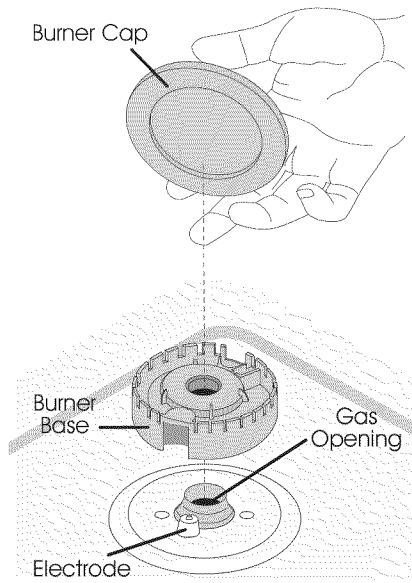

Figure 10
11.1 Install Burner Bases and Burner Caps This range is equipped with sealed burners as shown (see Figure 10).